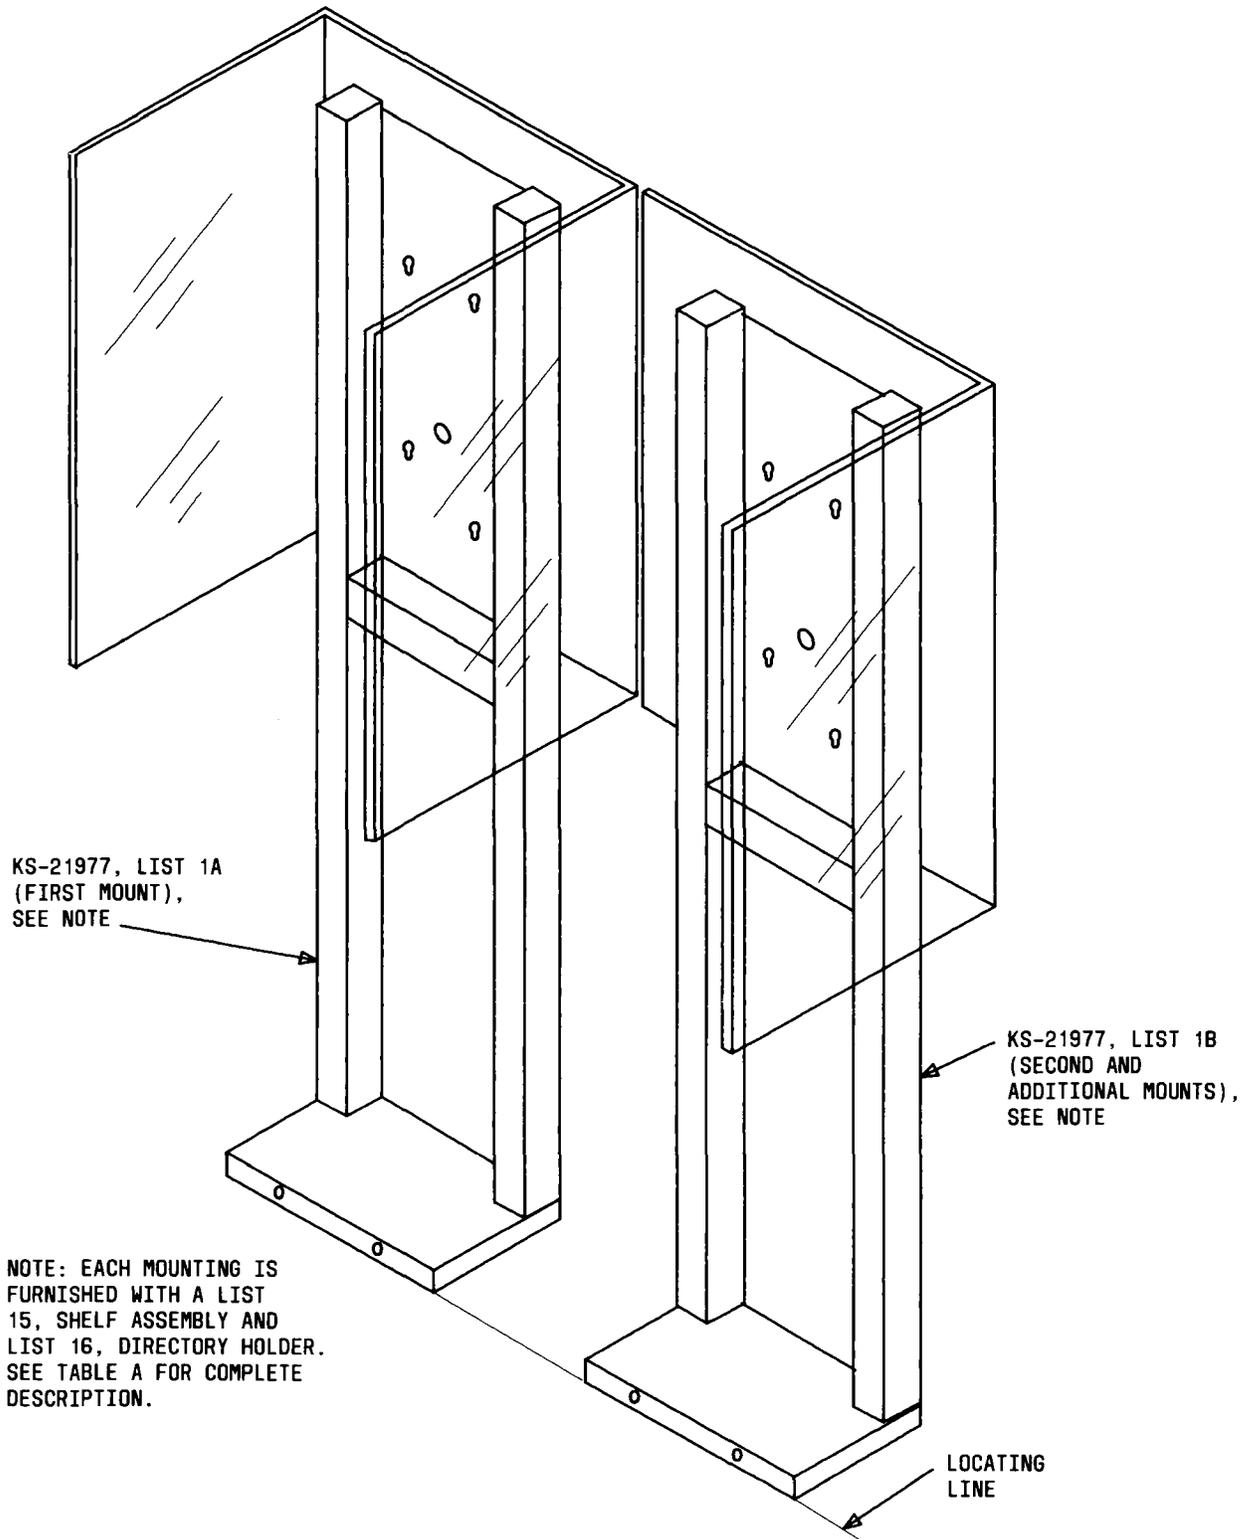

Fig. 3—Post Mountings, Side-by-Side
A. Post Mounts, Side-By-Side (Fig. 3)